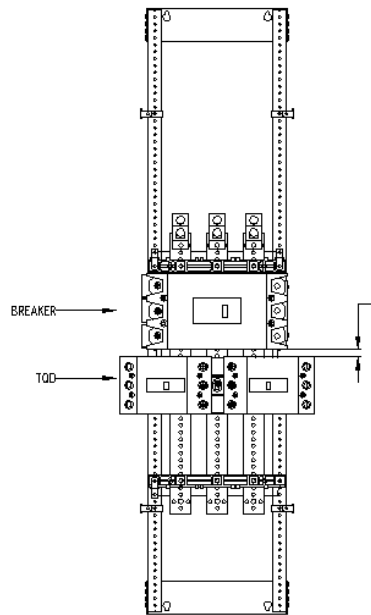

Figure 4. Distance between breakers
12. If TQD breaker has to be installed after SG or SF/TFJ as shown in Figure 4 then gap between the breakers (dim A) has to be followed as mentioned in Table 2. Replace the subsequent blank filler of dead front with TQD filler plate given in kit ASPP6QD6D using steps 9 to 11.